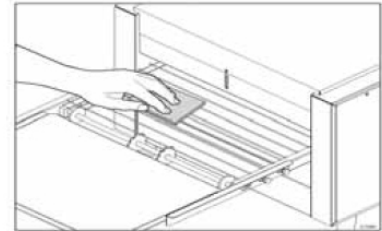

Figure 1
5. With the conveyor turned on and the crumb tray in place, take a wire grill brush or dry abrasive pad, clean the exposed surface of conveyor belt by passing the brush or pad, back and forth across the surface of the conveyor belt as the belt moves past (Figure 1). Continue until the entire belt is clean. Make sure the crumb tray is installed, this will minimize the amount of particles that fall into the oven.